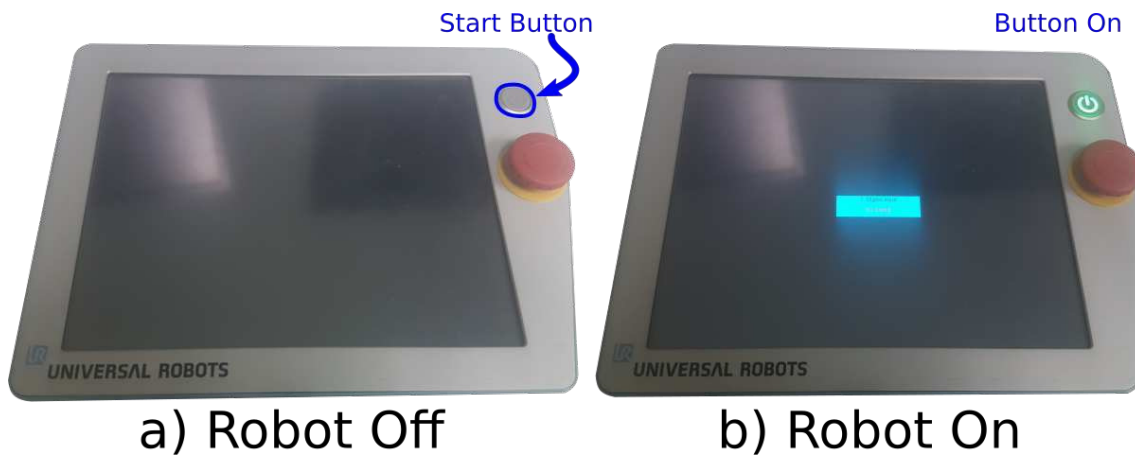

Figure 2.1: Turning the robot on.
1. Take the robot's *teach-pendant* and push the start button, see Fig.2.1 a). The button will be "on" and the system will start to boot (see Fig.). Please make sure that you are not inside the robot's workspace before turning on the robot and during the initialization phase.